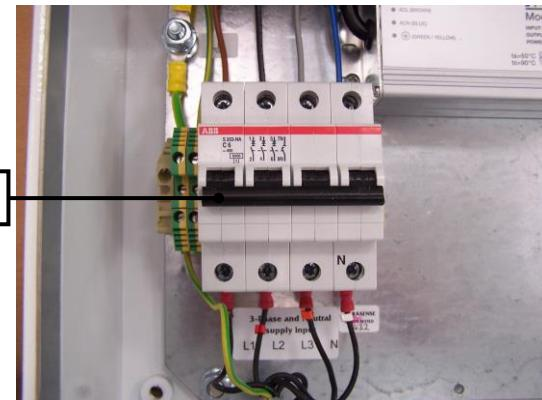

Fig 6.0
Switch off the mains supply to the SFP and wait for a few seconds while the power supply discharges. Open the door with the key provided, switch off at the internal circuit breaker (1) (see Figure 6.0).